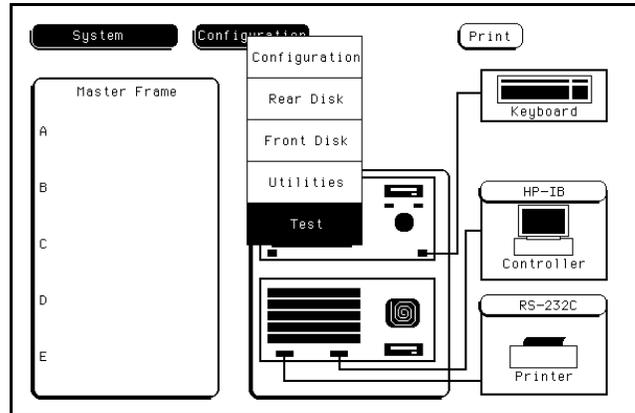

Figure 6-4. Accessing the Test System
2. Touch the **Configuration** field, then touch the **Test** field from the pop-up menu. See figure 6-4.